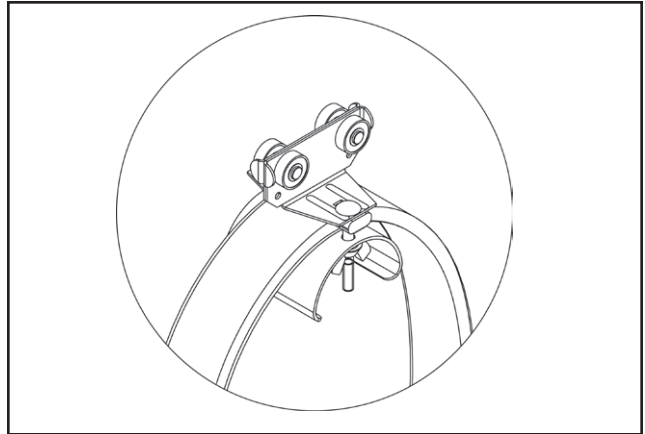

Figure 9-1
1. With the channel securely located, install the carriers into the slot of the C-Track. See **Figure 9-1**.